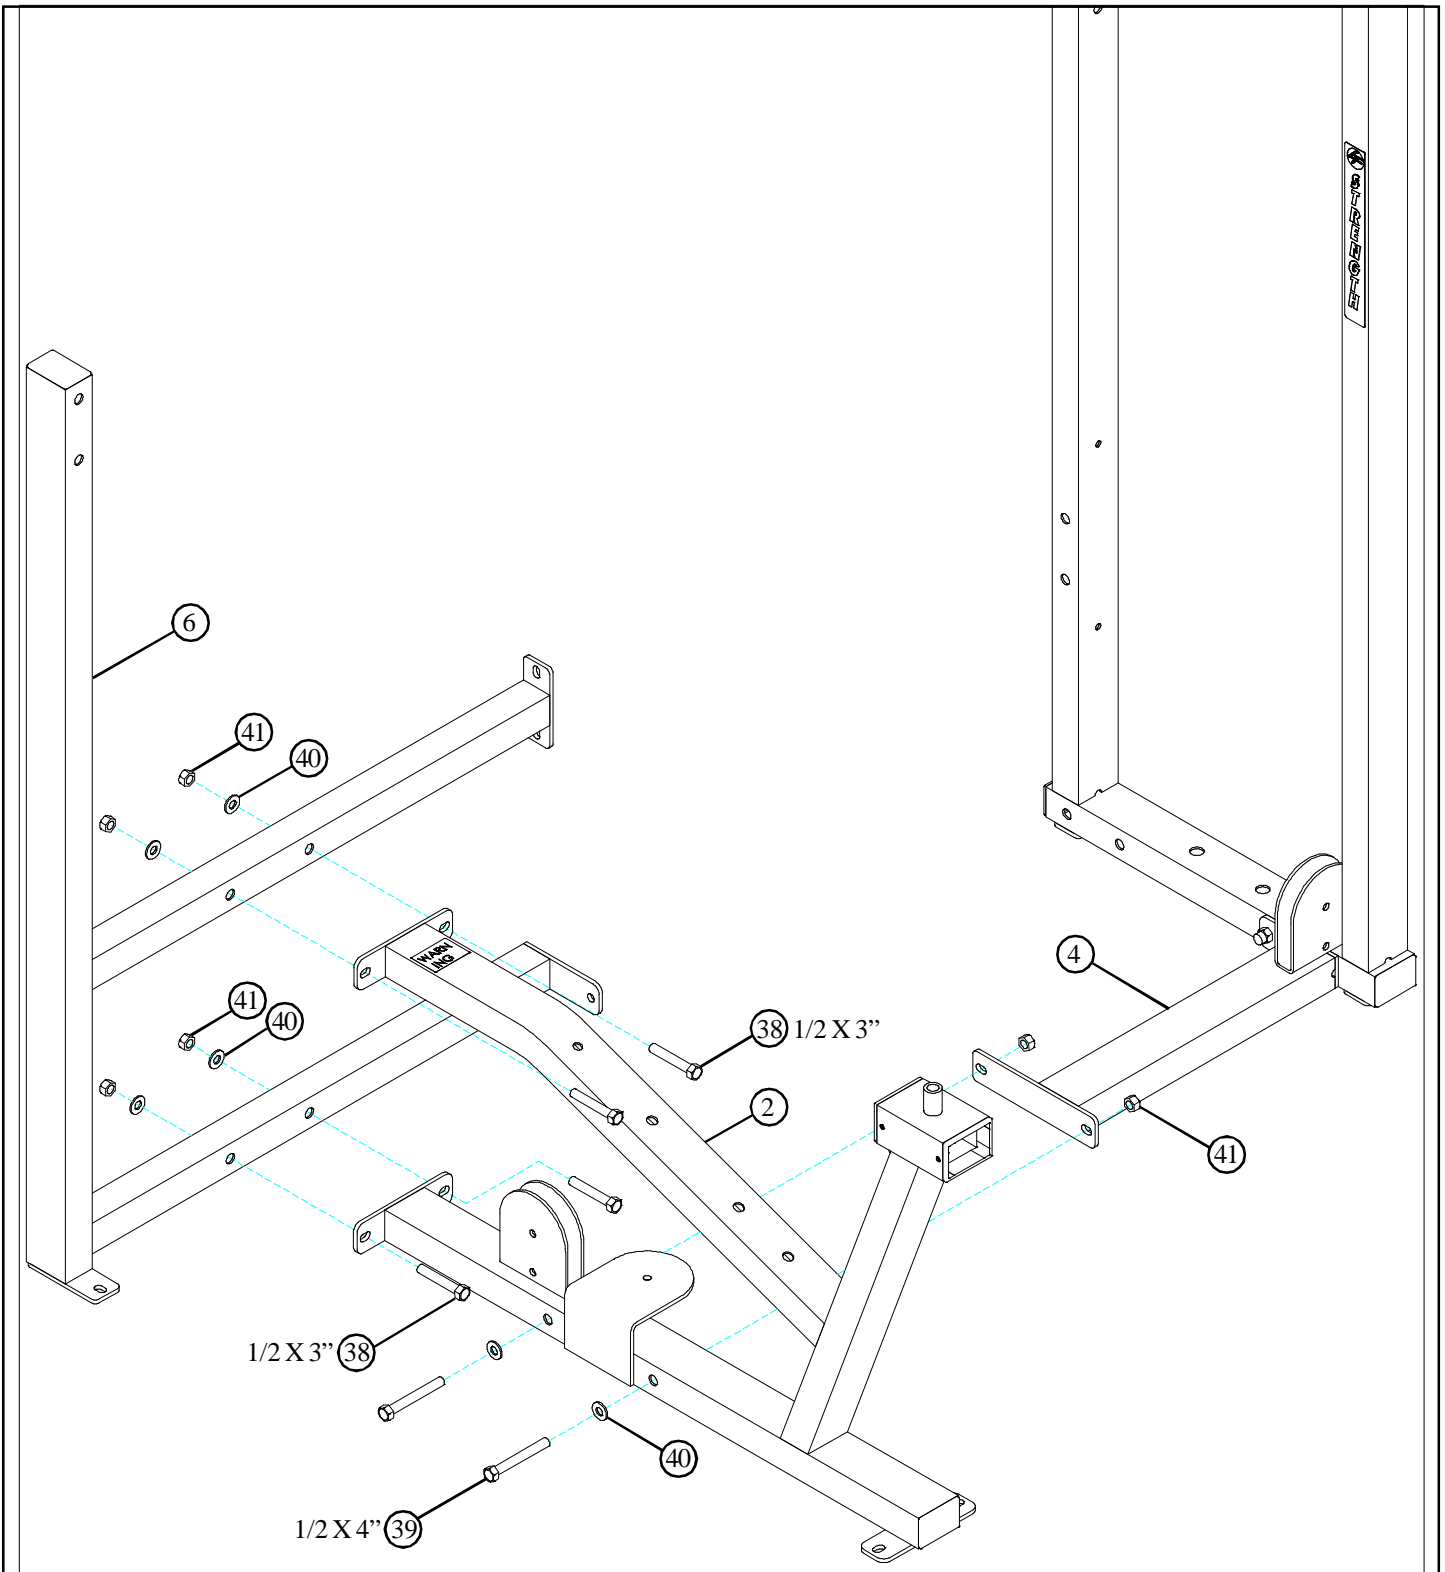

FIGURE 2
- **LOOSELY** assemble the FRAME (2) to the LOWER CROSS SUPPORT (4) using two 1/2 X 4" BOLTS (39), two 1/2" WASHERS (40) and two 1/2" LOCK NUTS (41). See FIGURE 2.
- **LOOSELY** assemble the PIVOT FRAME (6) to the FRAME (2) using four 1/2 X 3" BOLTS (38), four 1/2" WASHERS (40) and four 1/2" LOCK NUTS (41). See FIGURE 2.